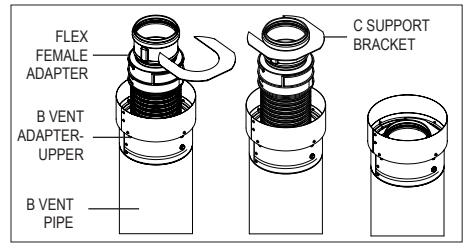

Figure 14
6. Install *C Support Bracket* as shown in **Fig.14** and lower *Flex Female Adapter* into *B Vent Adapter- Upper*